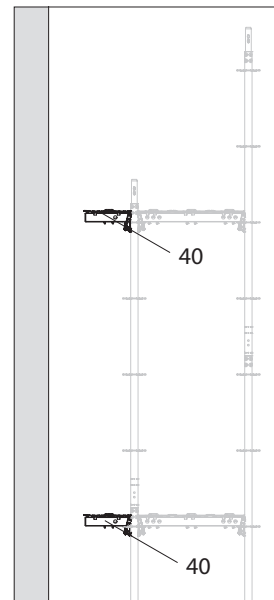

Fig. A6.07b
Supports UC (40) and UCS (47) do not allow the installation of a guardrail. Therefore, only use supports on the inner side of the scaffold. Distance between deck surface and structure  $\leq 30$  cm. (Fig. A6.07b)